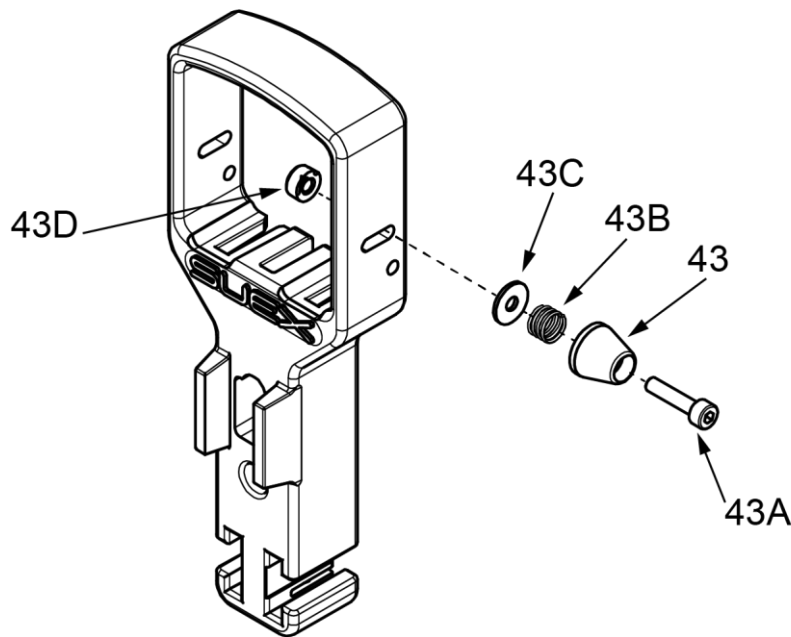

Fig 21 - Place cruise control on the right side
- Unscrew the screw (43A) by locking the nut (43D Fig 21 - on p. 18) (use the tools provided),
- reposition all cruise control components on the right side of the handle respecting the sequence (see Fig 21 - on p. 18).